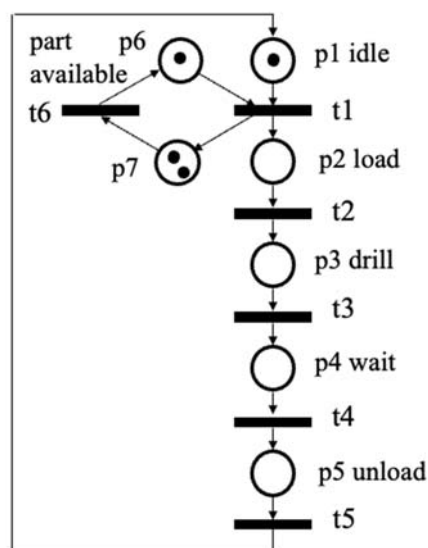
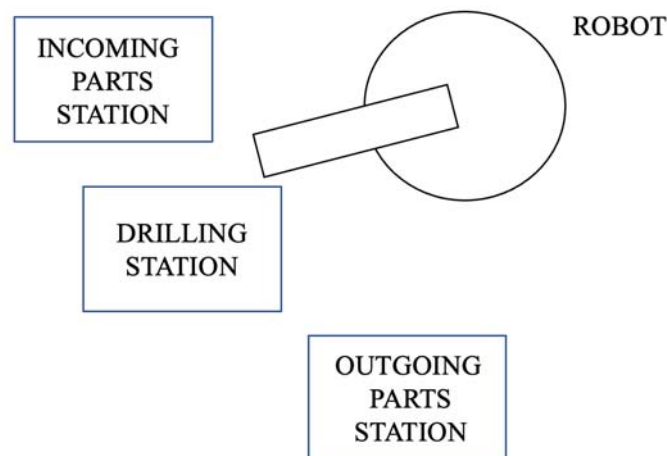

Fig. 2
Fig. 3
(b) A simplified Petri Net model of the operations on a drilling station is illustrated in Fig 2.
- (iii) The drilling operation modelled in Fig. 2 is to be integrated into a simple automated production cell illustrated in Fig. 3. A single robot moves parts from an incoming parts station to the drilling station and also removes completed parts to an outgoing parts station which can hold up to three completed parts at a time. Stating any assumptions you make, extend the Petri Net given in Fig 2. to integrate the robot and the outgoing parts station.